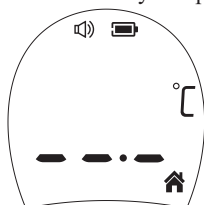

Figure 7
2. Press and hold *Setting button/Memory Button* to switch to object temperature mode. Figure 7 appears on the display screen with beep, so you can start a new measurement.